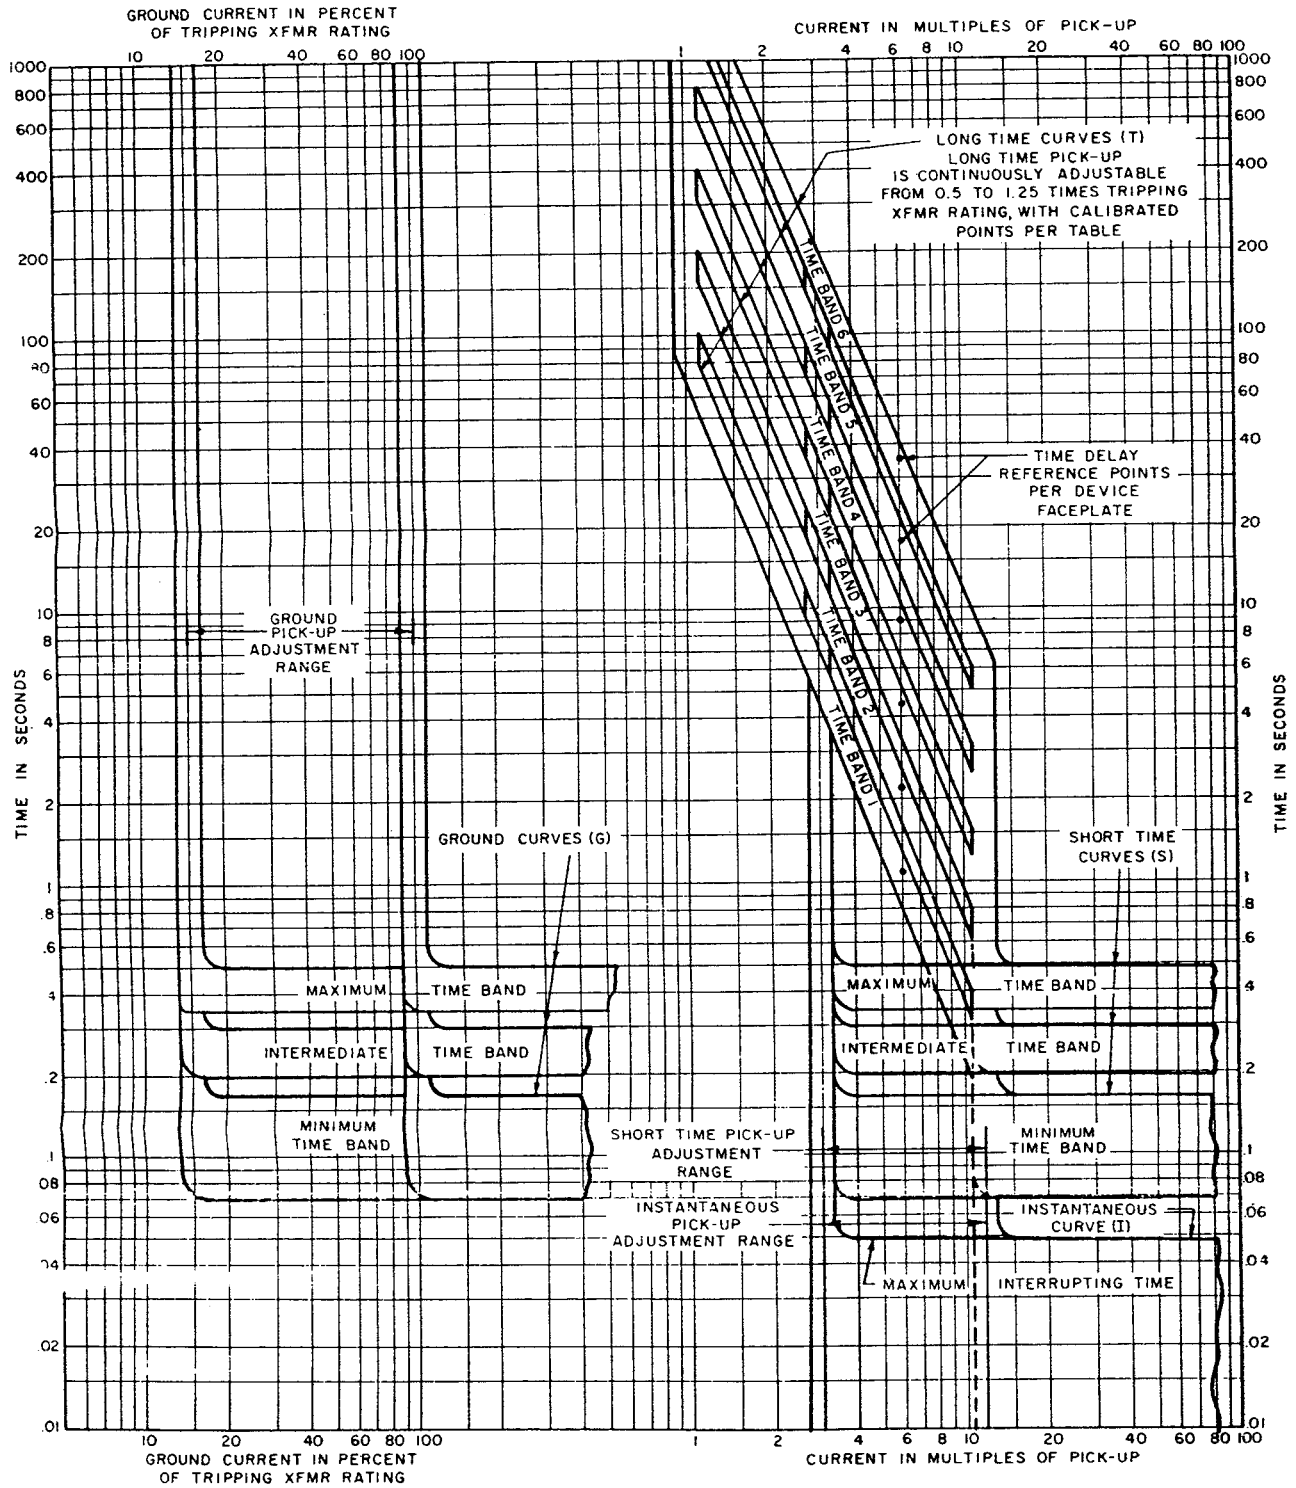

Figure 7. Time Current Curves—Static Trip II
If the time delay is tested at an input current 6 times the pick-up setting, the nominal time delays will be as shown in the table on the trip device. Maximum and minimum limits can be determined by reference to the time current characteristic curves, **Figure 7**.
6. When the trip device operator, check the reading of the stop clock against the curves in **Figure 7**. The reading should be approximately the same as shown on the faceplate of the device, but must be within the limits shown on the curves. If not, recheck all settings and repeat the test.
8. Repeat for the other phases (by changing green plug to terminal 2 for phase 2, and terminal 3 for phase 3) time delay bands and other values of current, as desired. All test points should fall within the bands of **Figure 7**. Each time band should have precisely twice the delay of the next lower band when all other conditions are the same.
5. Press the START button, the delay should be .35 to .50 seconds. See **Figure 7**.
6. Repeat the SHORT TIME BAND settings of INTERMEDIATE and MINIMUM, compare to **Figure 7**. The other phase circuits and different values of current can be tested if desired. Make current settings as quickly as possible to avoid overheating.
5. Press the START button. The breaker should trip in 0.4 and 0.5 seconds. See **Figure 7**. If the device has a target, its red button should pop out.